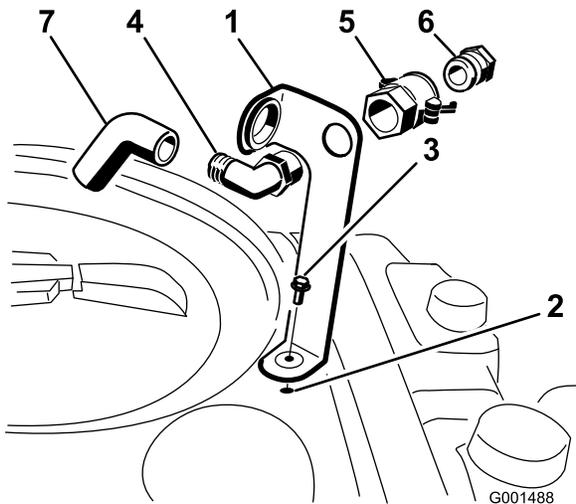

Figure 3
1. Place the fill-receptacle bracket over the threaded hole in the tank and secure it with a flange-head bolt (5/16 x 3/4 inch) (Figure 3).
2. Place the threaded end of the 90° elbow fitting through the bracket and thread the quick coupler onto it, securing it to the bracket (Figure 3).
3. Install the hose adapter into the quick coupler (Figure 3).
4. Lock the adapter into place by swinging the levers toward the adapter and then secure them with the hairpin cotters (Figure 3).
5. Install the anti-siphon hose through the large opening on the bracket and onto the barbed end of the 90° elbow fitting (Figure 3).